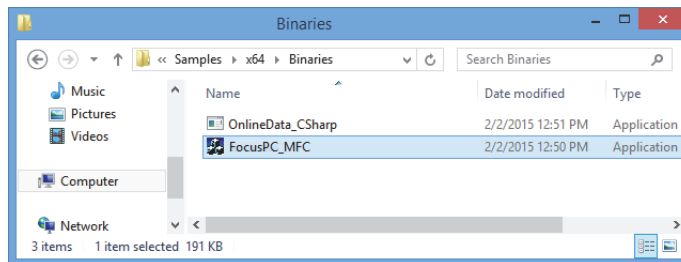

Figure 3-3 The access path to the FocusPC_MFC.exe program
3. Open the **FocusPC_MFC.exe** sample program, which can be found at the following access path (see Figure 3-3 on page 53):